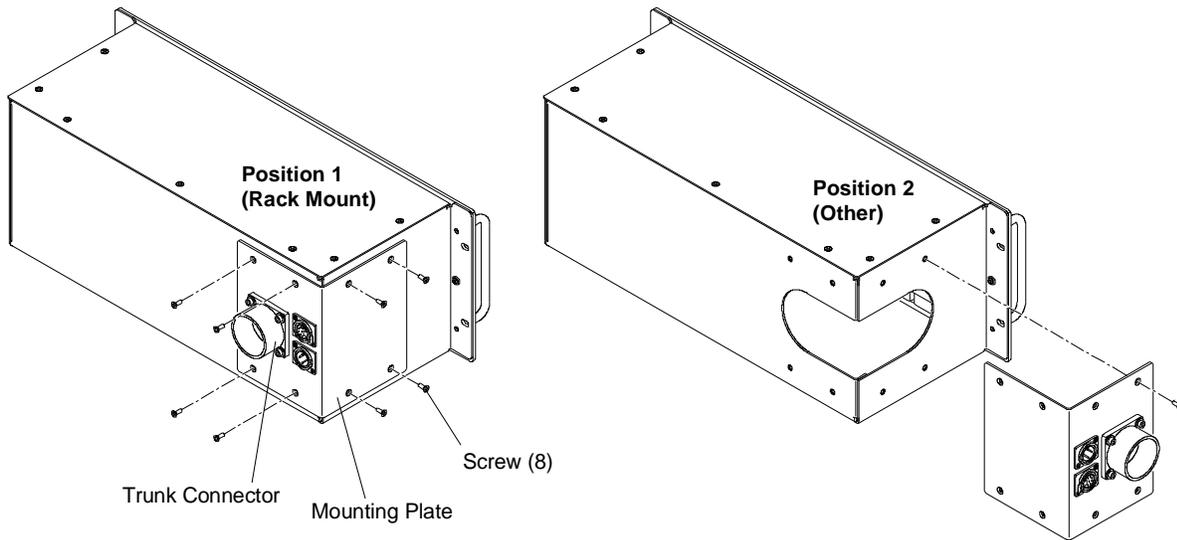

Figure 4-5: Repositioning FOH Breakout Module Trunk Connector
- Step 2. At trunk connector mounting plate, remove eight screws and pull connector loose (**Figure 4-5**). (Plate will still be connected by wiring.)